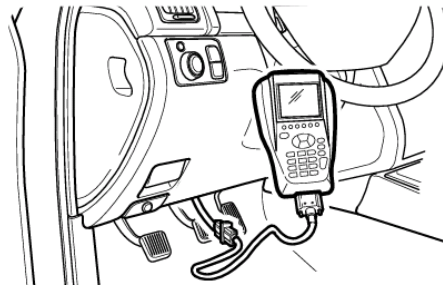

Figure 2.1: Plugging standard OBD-II connector into the vehicle's data link connector
- vi. Plug the standard OBD-II connector into the vehicle's data link connector as shown in figure 2.1.